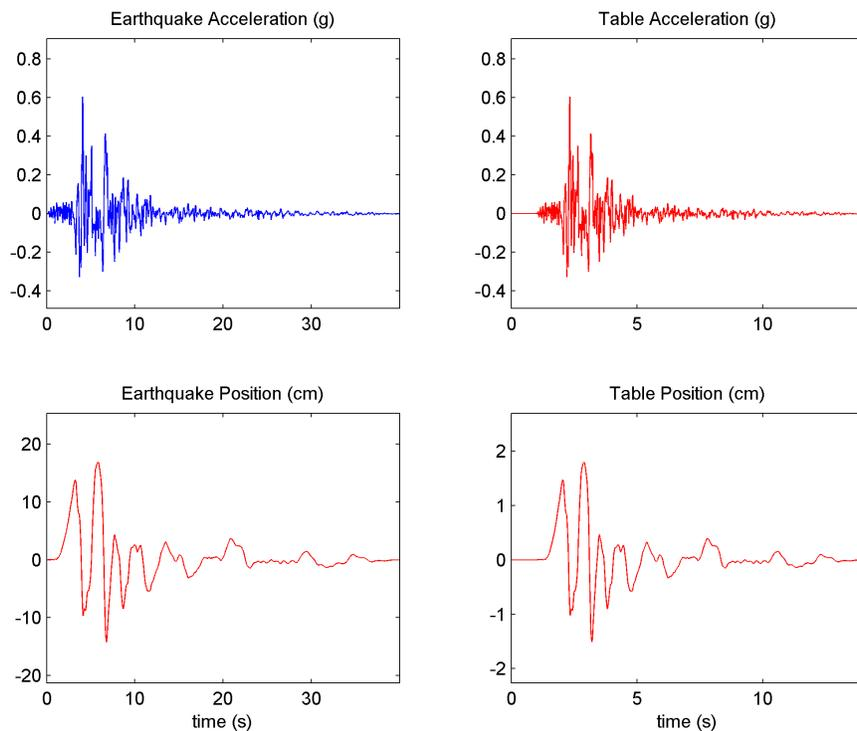

Figure 5.2: El-Centro earthquake plot created by *make\_quake.m* script
- Run the *make\_quake.m* script (click on Debug | Run in the Editor menu bar or on the *Run* icon in the Editor tool bar) to generate the earthquake wave. This will generate a plot similar to Figure 5.2. The desired acceleration and recorded earthquake acceleration is shown in the top plot (in gravitational units) and the scaled position setpoint in the bottom plot (in centimeters).